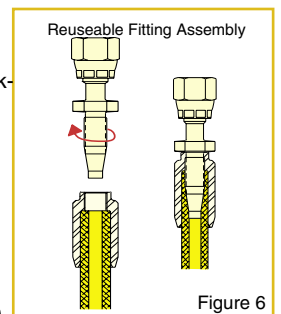

Figure 6
7. Using a wrench on the nipple hex, screw nipple into socket clockwise until nipple hex rests against socket shoulder (Figure 6). Do not tighten beyond that point.